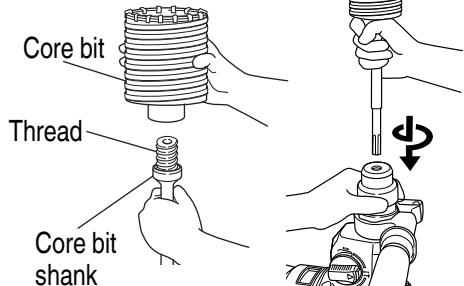

Fig. 33
- (1) Mount the core bit to the core bit shank (Fig. 33).